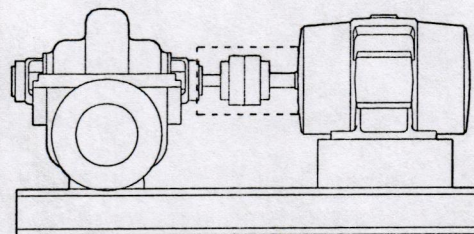

Fig. 1 KP pump with motor and base
- Pump with motor and base (see fig. 1).